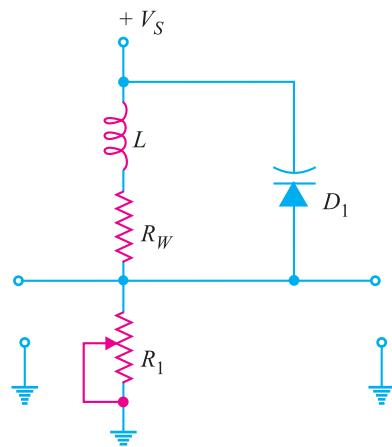

Fig. 7.23
We have discussed that we can increase or decrease the junction capacitance of varactor diode simply by changing the reverse bias on the diode. This makes a varactor diode ideal for use in circuits that require voltage-controlled tuning. Fig. 7.23 shows the use of varactor diode in a tuned circuit. Note that the capacitance of the varactor is in *parallel* with the inductor. The varactor and the inductor form a parallel LC circuit. **For normal operation, a varactor diode is always operated under reverse bias.** In fact, this condition is met in the circuit shown in Fig. 7.23. The resistance  $R_W$  in the circuit is the *winding resistance* of the inductor. This winding resistance is in series with the potentiometer  $R_1$ . Thus  $R_1$  and  $R_W$  form a voltage divider that is used to determine the amount of reverse bias across the varactor diode  $D_1$  and therefore its capacitance. By adjusting the setting of  $R_1$ , we can vary the diode capacitance. This, in turn, varies the resonant frequency of the LC circuit. The resonant frequency  $f_r$  of the LC circuit is given by;
**Example 7.5.** The LC tank circuit shown in Fig. 7.23 has a 1 mH inductor. The varactor has capacitance of 100 pF when reverse bias is 5V d.c. Determine the resonant frequency of the circuit for this reverse bias.